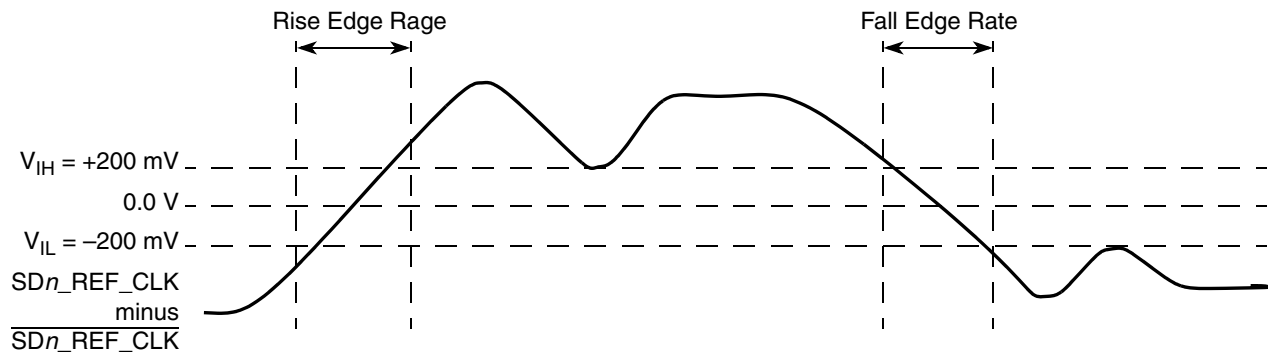

Figure 49. Differential Measurement Points for Rise and Fall Time
3. Measured from –200 mV to +200 mV on the differential waveform (derived from SDn_REF_CLK minus $\overline{SDn_REF_CLK}$). The signal must be monotonic through the measurement region for rise and fall time. The 400 mV measurement window is centered on the differential zero crossing. See Figure 49.